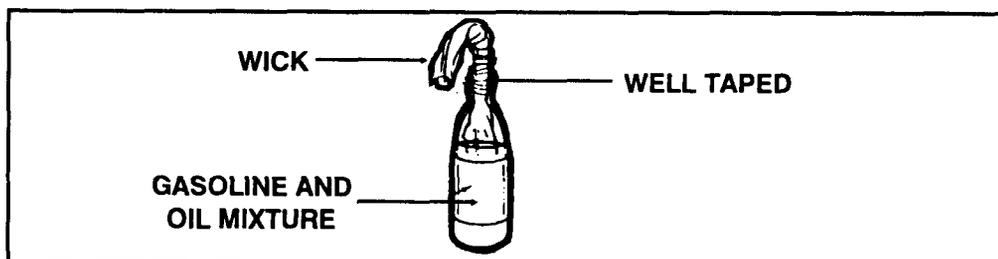

Figure C-17. Molotov cocktail.
g. The Molotov cocktail (Figure C-17) is an inexpensive device for disabling both wheeled and tracked vehicles. It is easy to make since the materials are readily available. The results are most effective because of the close engagement in built-up areas. The objective is to ignite a flammable portion of the vehicle such as the fuel or ammunition that it is transporting. The following materials are needed to make a Molotov cocktail: